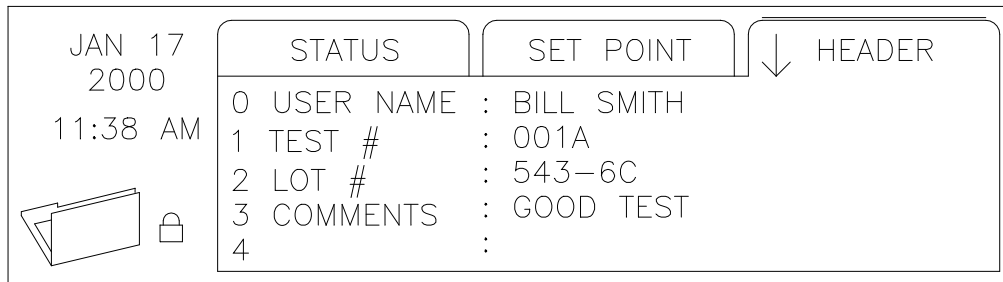

Figure 5-23: Header Data Screen
- Press [→] to display the Header screen, as shown in Figure 5-23.